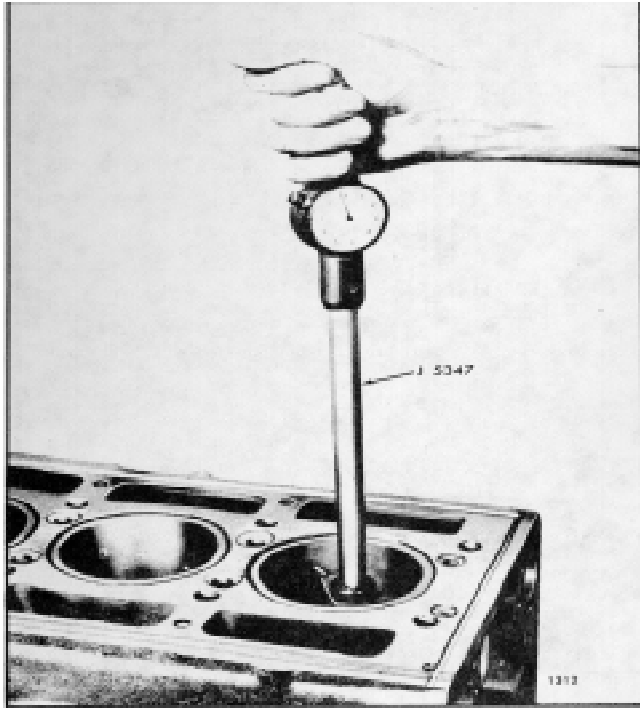
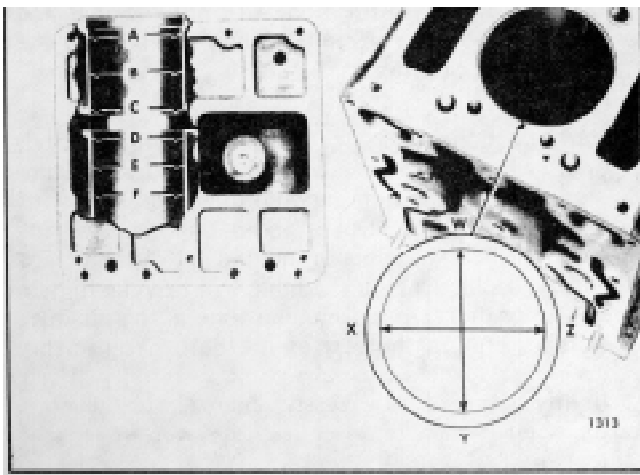

Fig. 11 - Checking Bore of Cylinder Block
Fig. 12 - Cylinder Bore Measurement Diagram
- b. Measure the entire bore of each cylinder with cylinder bore gage J 5347 (Fig. 11) which has a dial indicator calibrated in .0001 "increments. The standard block bore is 4.6260" to 4.6270". First, place the bore gage in the master ring gage J 8386-01 which has an I.D. of 4.6270" and set the dial to zero. Next rotate the dial clockwise .0005" to give a zero dial indicator setting of 4.6265". Take measurements on the cleaned-up surface only at positions A, B, C, D, E and F in the bore on axes 90 apart (Fig. 12). Read the measurements from the zero mark on the gage.